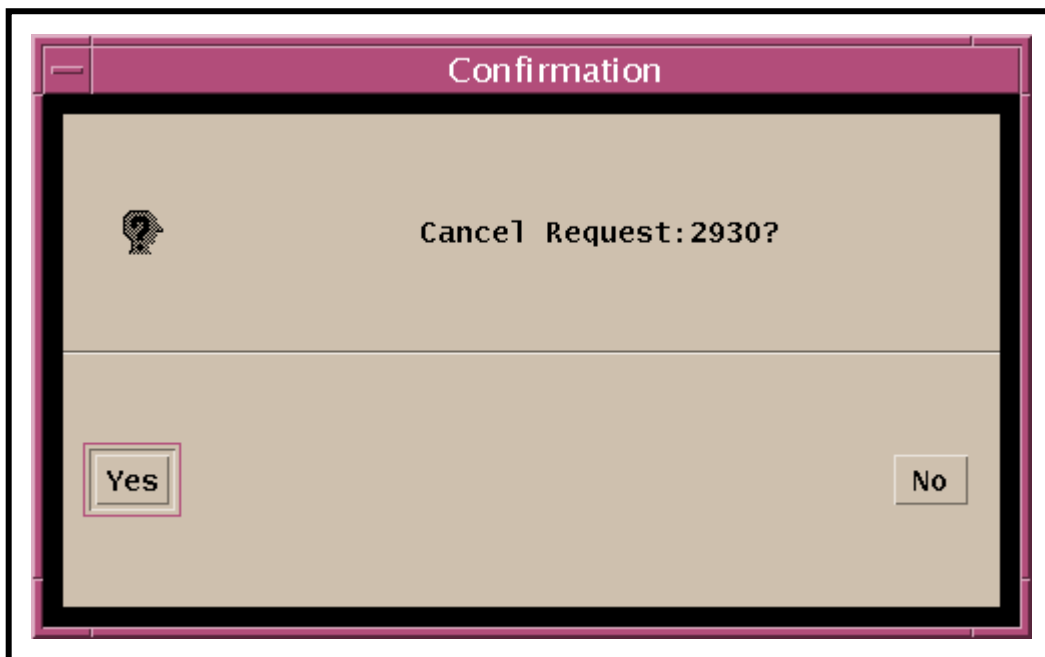

Figure 15. Cancel Request Confirmation Dialogue Box
- A **Cancel Request Confirmation Dialogue Box** (Figure 15) is displayed.
- The **Cancel Request Confirmation Dialogue Box** (Figure 15) is dismissed.